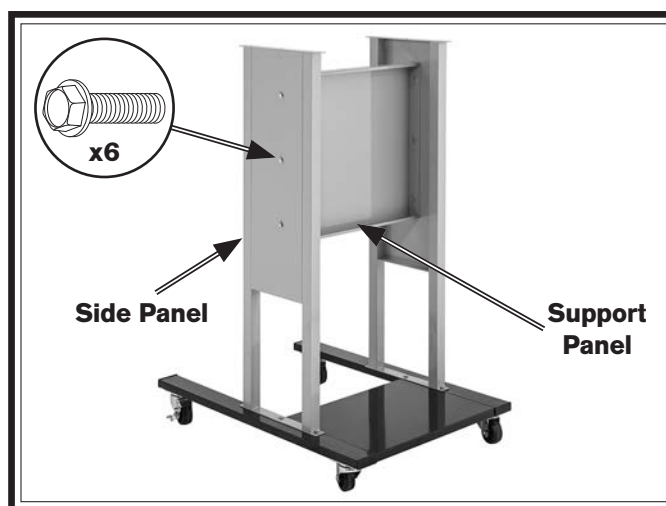

Figure 12. Support panel attached to side panels.
3. Attach support panel to side panels with (6) $\frac{5}{16}$ "-18 x $\frac{1}{2}$ " flange bolts (see **Figure 12**).